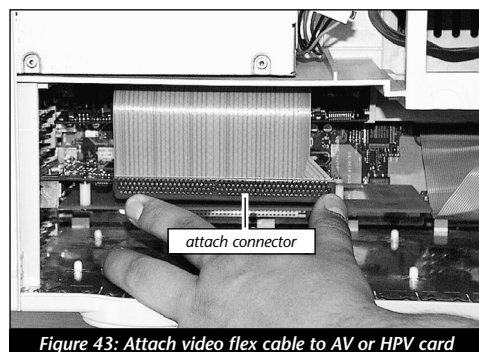

Figure 43: Attach video flex cable to AV or HPV card
16. Attach the connector on the video flex cable to the AV or HPV card (**Figure 43**). Gently press down on the outer edges of the connector to avoid pricking your fingers on the series of pins on top of the connector. If necessary, use a piece of foam from the packaging material your card shipped in to provide a cushion between your finger and the pins.